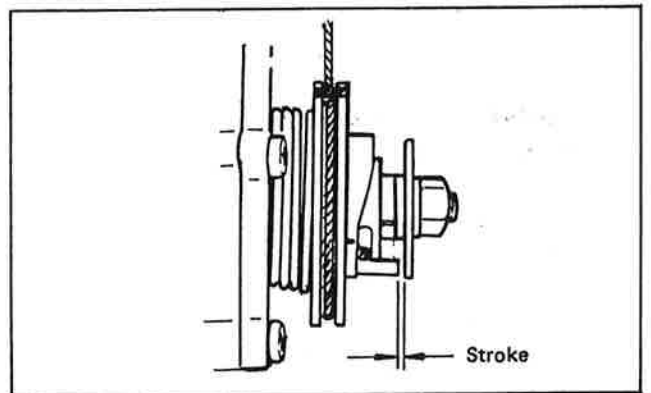

Fig. 2-3-9
- b. Measure gap with thickness gauge between raised boss on pump adjust pulley and adjust plate. If clearance is not correct, remove adjust plate locknut and adjust plate. (Fig. 2-3-9)